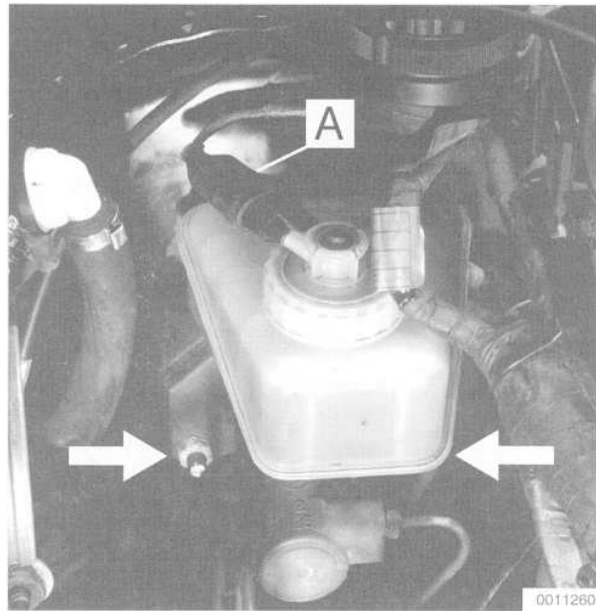

Fig. 12. Brake master cylinder mounting nuts (arrows), and brake fluid level sender connector (A).
- Disconnect the brake fluid lines from the master cylinder. Unscrew the mounting nuts and remove the master cylinder from the brake booster. See Fig. 12.